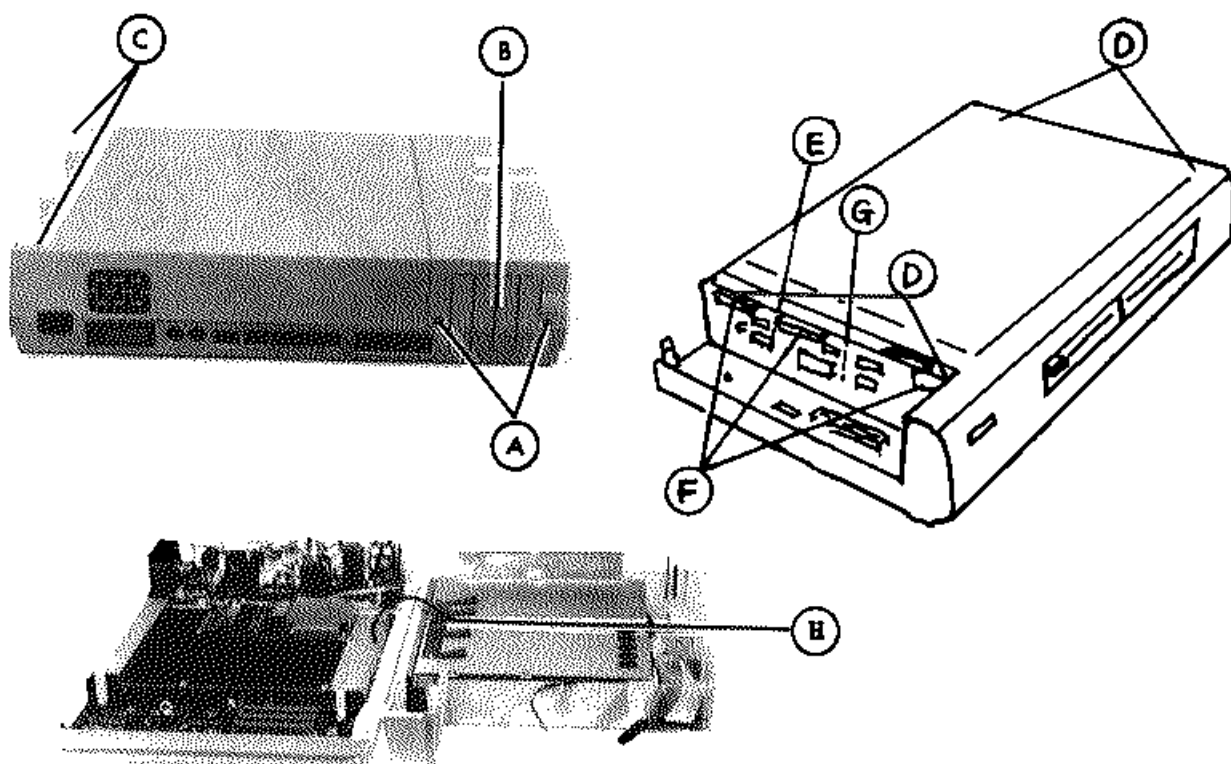

FIGURE 4-1. UPPER CASE REMOVAL/REPLACEMENT
1. Remove two screws (A) from the option cover (Figure 4-1) and lift the cover from the main unit. Remove the option port shield (B) if present.
2. Use a flat-blade screwdriver to lift two caps (C) from the upper case, then remove four screws (D).
3. Remove cable (E) from disk drive A; remove cables (F) from the hard disk drive; remove speaker connector CN14 (G); then lift the case to remove.
4. Remove ground wire (H).
1. Install connector (E) to disk drive A (Figure 4-1); connect (F) to the hard disk drive; install connector CN14 (G), to the speaker; connect ground wire (H); then position the upper case on the lower case assembly.